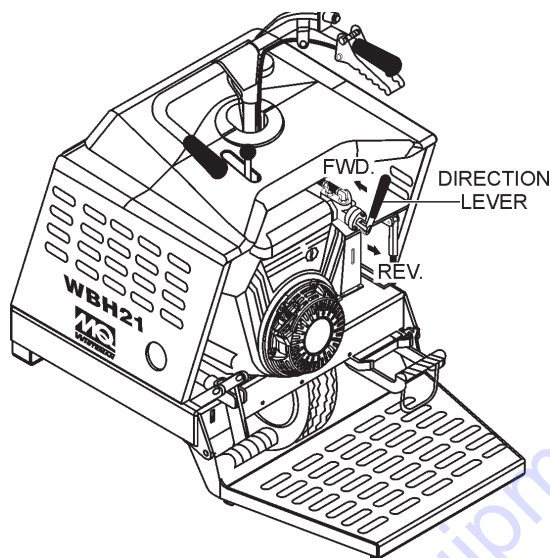

**Figure 18. Speed Control Lever**
- Check the speed control lever (Figure 18) located on the right side of the handle bar. The speed control should work freely when squeezed by hand, and return to the **neutral** position when released.
5. Slowly squeeze the speed control lever slightly (Figure 18), for a short period of time to test the brake holding capacity. If the buggy moves forward, adjust the brakes as outlined in the maintenance section of this manual.
2. Squeeze the speed control lever (Figure 18) slightly until the buggy begins to move in a forward direction. Initially, let the buggy travel at about 3 MPH.